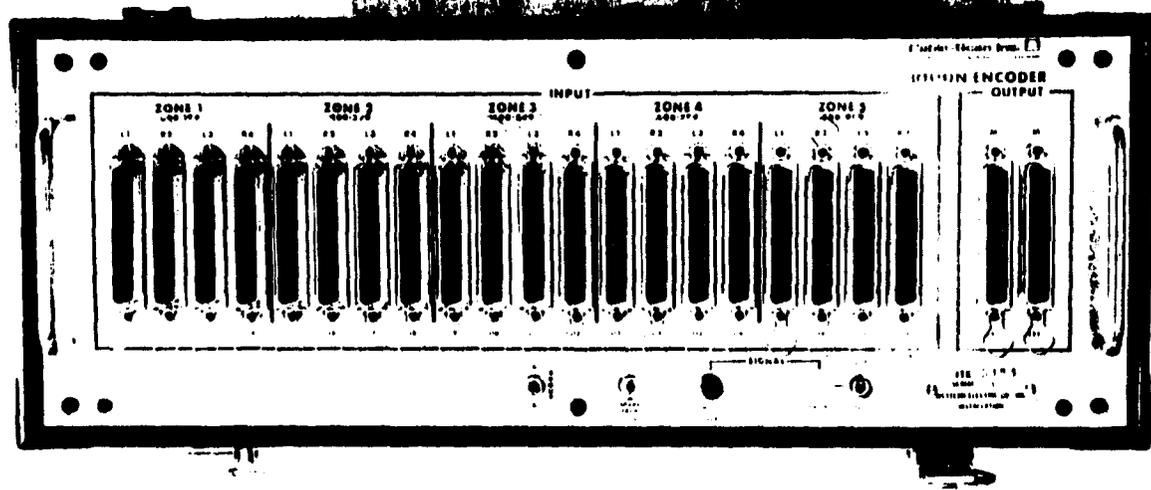

FIG. 3 ITE-5424 1000 CIRCUIT ENCODER
- 2.3 ITE-5424 1000 Circuit Encoder (Figure 3)